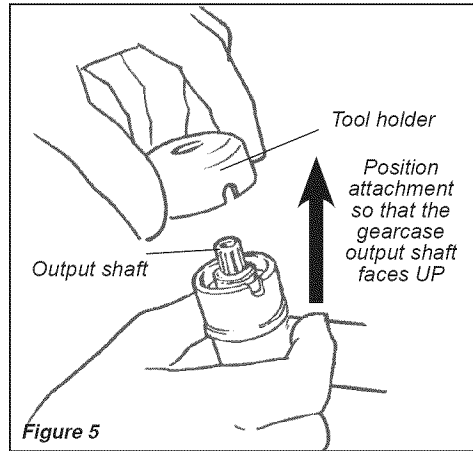

Figure 5
1. Turn the trimmer over so that the gearcase output shaft faces UP. See Figure 5.
3. Position the tool holder as shown, and slide the holder onto the output shaft. See Figure 5.